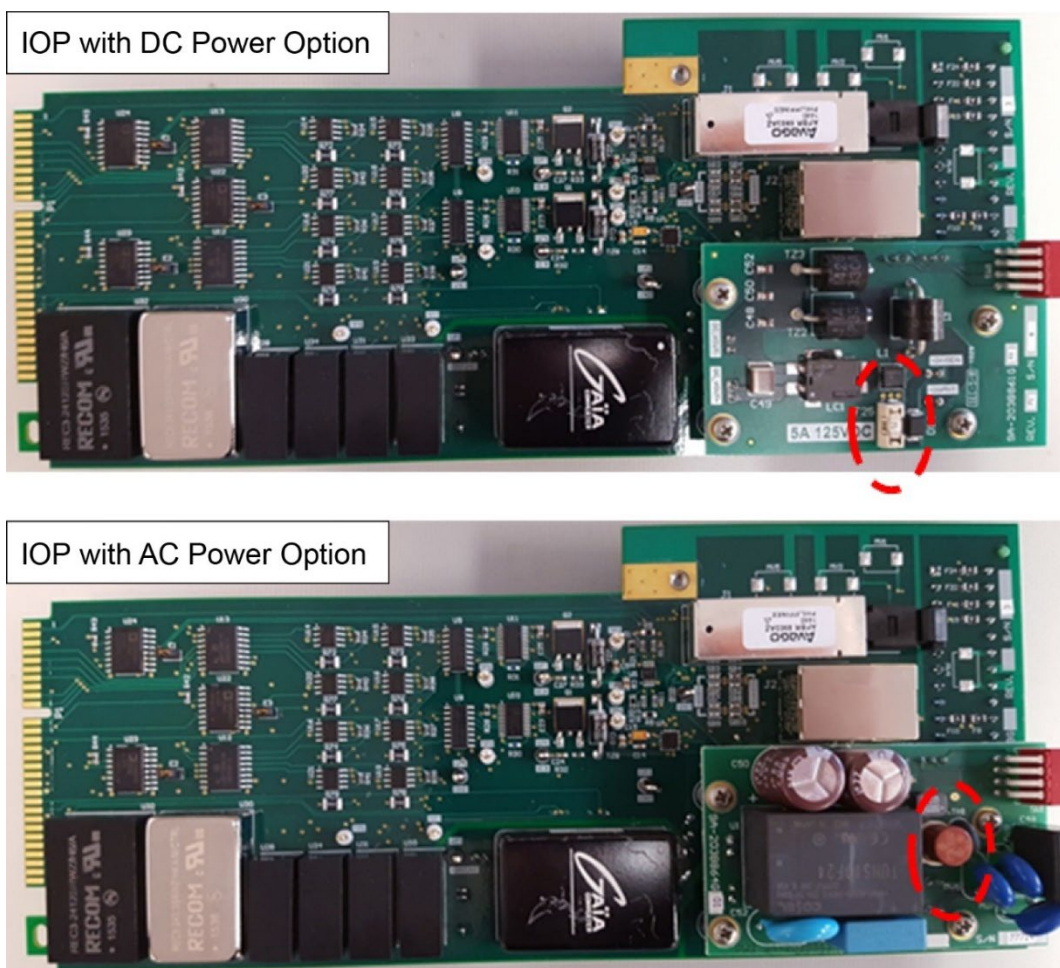

Figure 6.3—Location of IOP/F25 fuse
6. Locate the IOP/F25 fuse. (Note – the fuse protects the electronics from errant wiring of power to 120/230 VAC). The F25 fuse is on the same side of the IOP board as the plug-in connectors, near the power inputs (TB1). Refer to Figure 6.3 below.